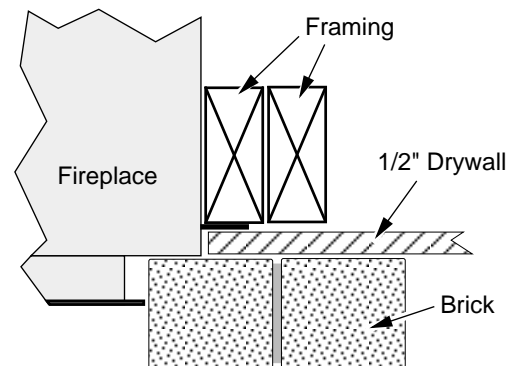

Figure 27
- Facing may be installed so it inserts behind the faceplate (see Figure 27). . NOTE: the faceplate protrudes 1" from the front of the fireplace, has a 1/8" overlap on the sides, and 1/4" overlap on top.
- To achieve a facing that is flush with the drywall to the side of the fireplace, recess the framing directly next to the fireplace (see Figure 27).